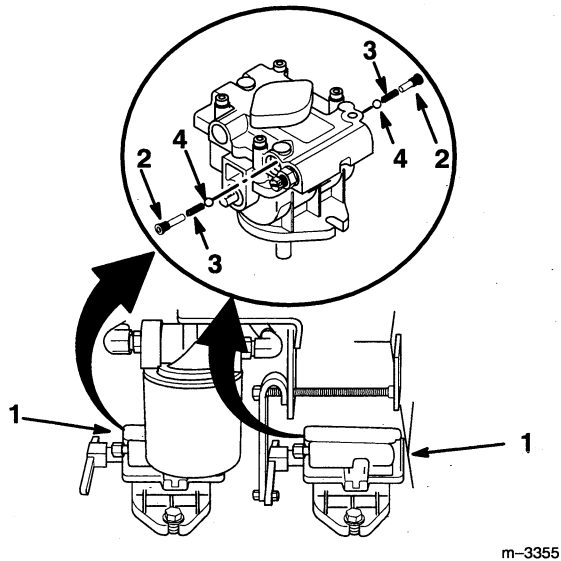

Figure 2
- Clean area of both hydraulic pumps around existing ball check valves (Fig. 2).
- Unscrew existing check valves from both pumps and remove and discard the plugs and springs (Fig. 2).
- Using a pencil magnet, remove the valve balls (Fig. 2). Discard the balls.